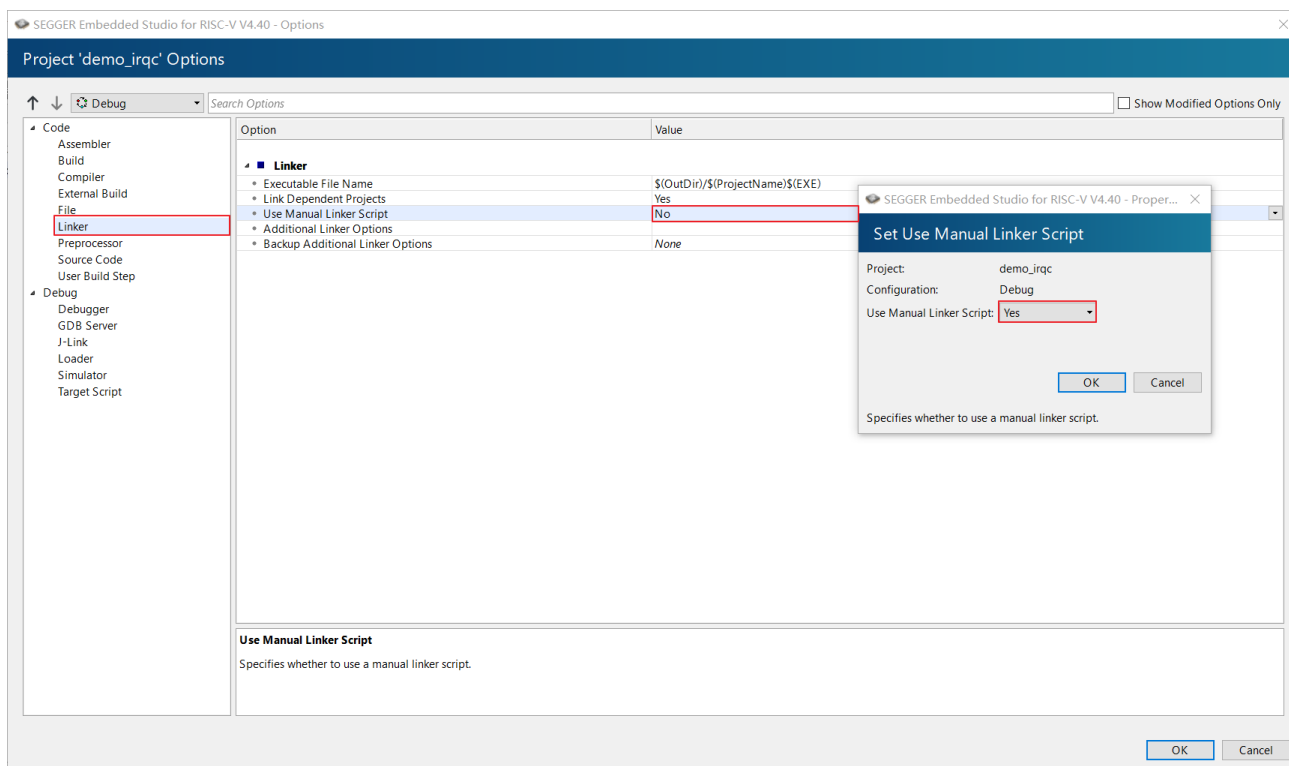
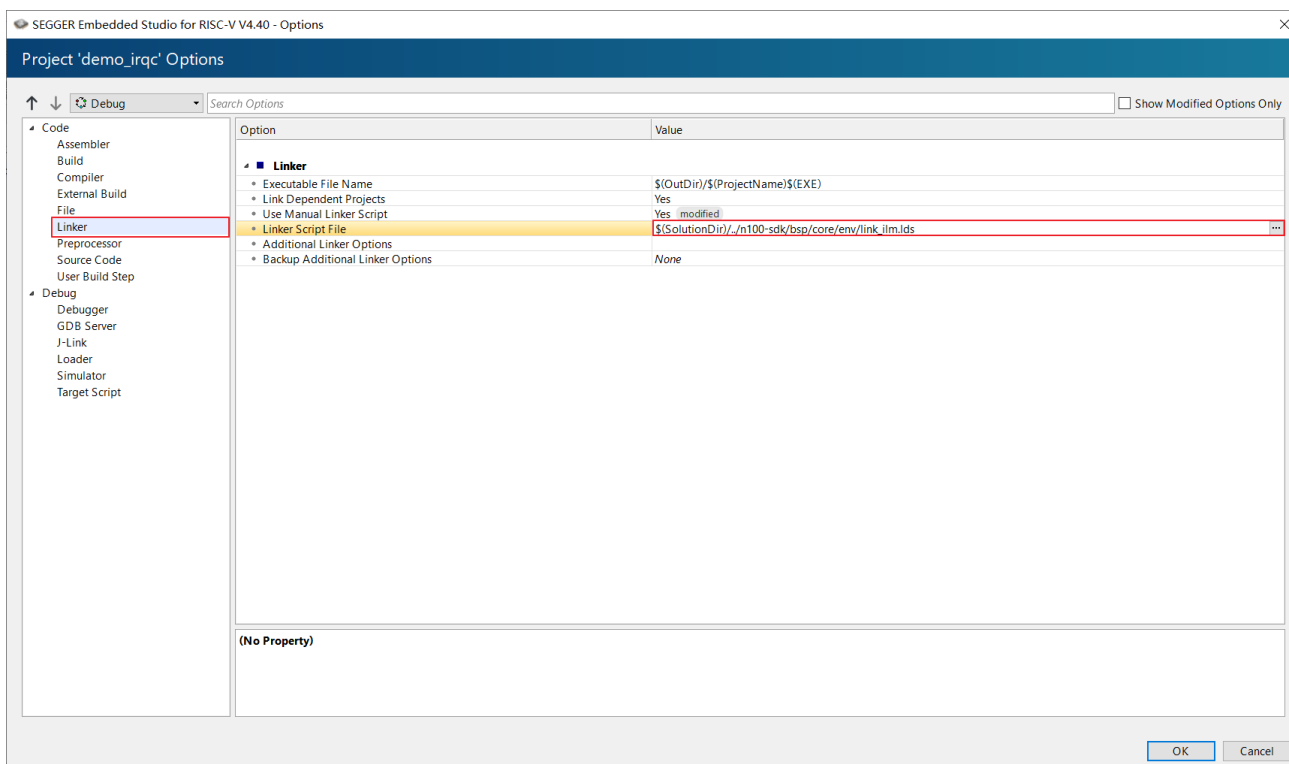

Figure 2-17 Set Use Manual Linker Script Option to Yes
Figure 2-18 Set Linker Script Directory
- Modify the “Use Manual Linker Script” option under “Linker” column to “Yes”, as shown in Figure 2-17. When the option is set to “Yes”, a new option is added, as shown in Figure 2-18. Enter the path of link script in this option.